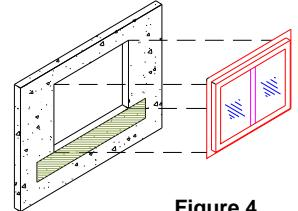

Figure 4
6. Insert the window into the opening (See Fig. 4). Shim with non-porous, non-absorbent, inorganic shims at head and jambs, cross measure and adjust as necessary to achieve a plumb, square and level condition, as well as an even reveal around the frame opening. Ensure that there are no crowns and dips in the head, jambs or sill. Secure the full perimeter of the window with the equivalent of 6d galvanized or corrosion resistant fasteners at 12 inches (maximum) on center. Hinged and pivoted windows require additional fasteners located within 1 inch each side of, and in the same plane as the hinge or pivot. Seal all fastener heads during installation with sealant. In each direction from the corners there must be a fastener within 6 inches, but no closer than 3 inches, to prevent frame distortion or fracture of joint seals.